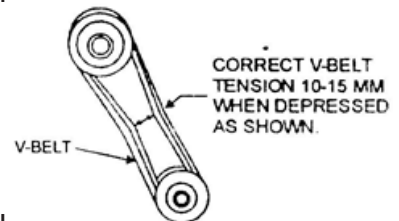

Figure2.V-Belt Tension
- After 200 hours of operation, remove the upper belt cover to check the V-belt tension (Figure 2). Tension is proper if the belt bends about 10mm when depressed strongly with finger between shafts. Loose or worn V-belts reduce power transmission efficiency, causing weak compaction and reduces the life of the belt itself.